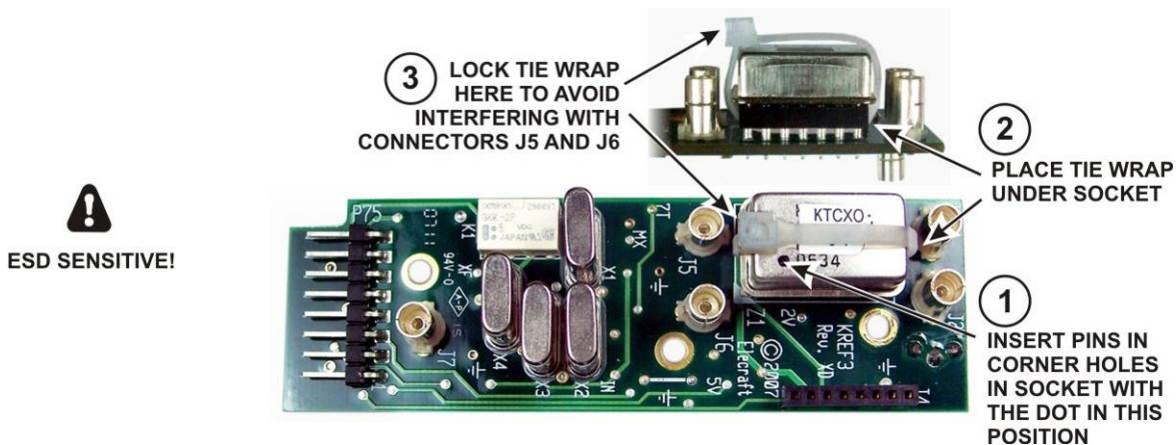

Figure 78. Mounting TCXO Module on KREF3 Board.
□ Mount the TCXO module on the KREF3 board as shown in Figure 78. Be certain the leads go into the corner holes in the socket and the black dot is oriented toward connector J6 as shown. If you have a 1ppm high-stability module, the dot may be light brown and not as close to the corner. If the module has only three leads, the missing lead will be in the corner with the dot. If you have the standard 5ppm TCXO, the bottom may be slightly above the socket when the leads are fully inserted. Tighten the tie wrap enough to ensure the oscillator so it cannot fall out but do not bend the leads.